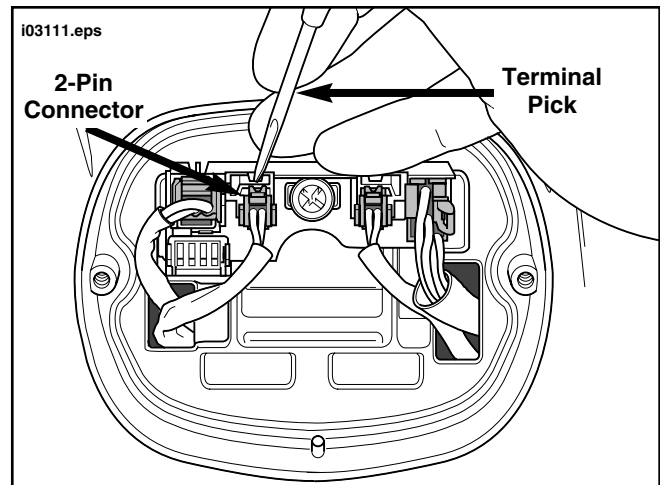

Figure 1. Disconnect Turn Signals (2000 Shown)
- b. See Figure 1. Disconnect left and right turn signal (2-Place) connectors from sockets. Cut wires at connector as close to terminal end as possible. Discard connectors and terminals.